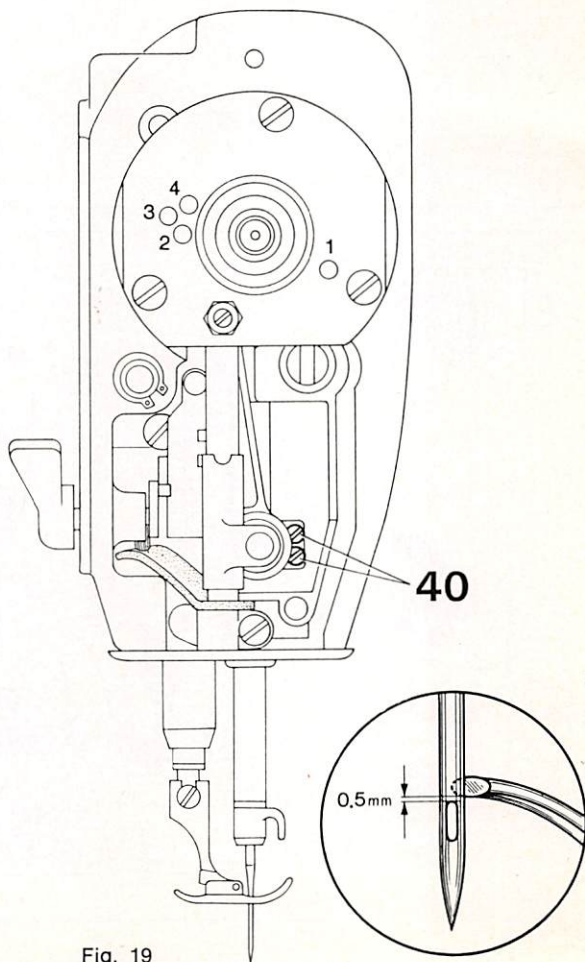

Fig. 19
17. Setting the Needle Bar at the Correct Height (Fig. 19)
- 17.4 Push the needle bar up or down until the hook point is positioned 0.5 mm (.02") above the top of the needle eye (see circle in Fig. 19).